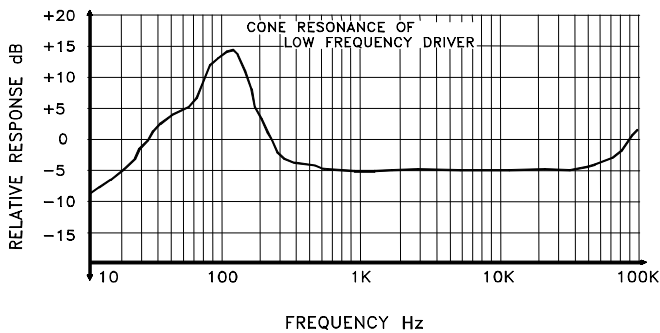

FIG 8. TESTING SPEAKER SYSTEMS AND IMPEDANCE NETWORKS
- A. Connect equipment as shown in Test Set-Up in FIG. 8 for frequency response measurement except that the signal input to the speaker or impedance network is monitored. The oscilloscope may be used to verify that this instrument is not in a clipping condition.
- D. In speaker testing, a pronounced increase of voltage will occur at some low frequency. This is the resonance frequency of the speaker systems(FIG. 8). The speaker enclosure will modify the results obtained from the same speaker without an enclosure. A properly designed enclosure will produce a small peak on each side of the peak obtained without an enclosure. the enclosure designer can use the response characteristics to evaluate the effects of varying port sizes, damping materials and other basic enclosure factors.
- a. Connect a variable resistor in series with the impedance network as shown in FIG. 8